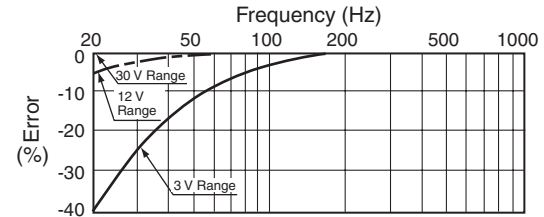

Fig. 3.2 Frequency Characteristics when OUTPUT Terminal is Used
8. In case of low frequency, voltage drop across the capacitor causes an error in indication. This error depends upon the measuring range. (Refer to **Fig. 3.2 Frequency Characteristics when OUTPUT Terminal is Used**)